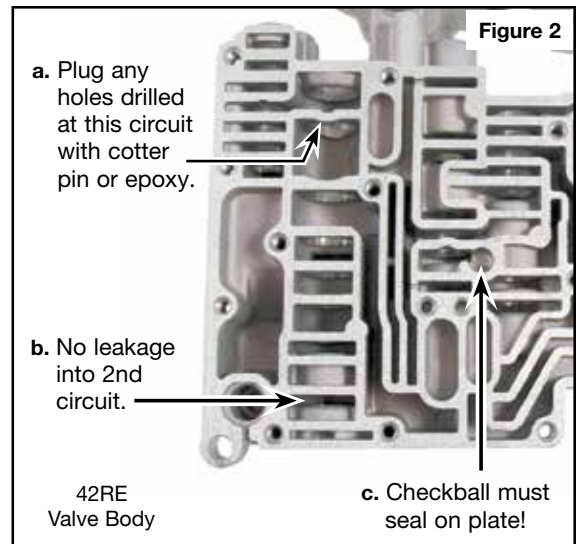

**Figure 1**
**NOTE:** Fits '78-Later only (Figure 1)